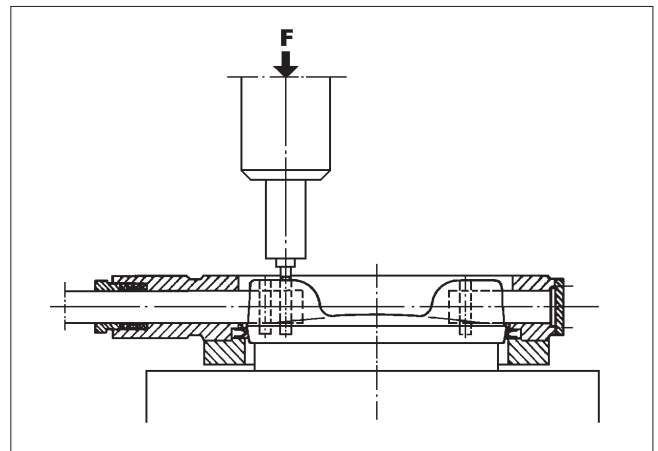

Fig. 16 Pressing the pins
- Support the disc well in a horizontal position during mounting of the pins. Push the new pins into the holes and press them in a press to final form (see Fig. 16). Use slightly larger pressing tool than the pin diameter. See Table 7 for forces.